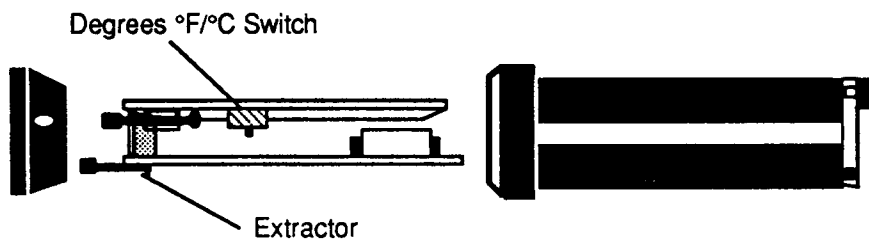

Figure 7 - °F/°C Switch Location
Behind the lens is a black lever or "extractor" fastened to the lower PC board of the 809, or to the left board on the Series 811. See Page 6, Figure 7.
1. Set °F - °C switch to °F. It is located on the right side of the Series 809, and on the bottom of the 811 chassis. See Figure 7 for switch location. Apply power to the load.